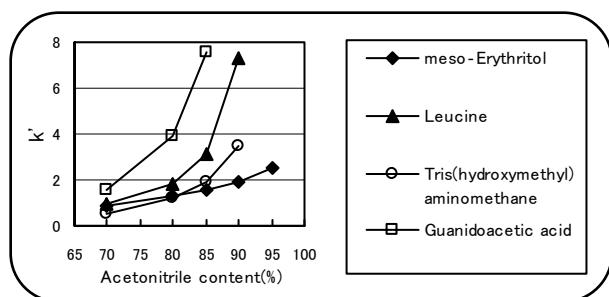

Fig.2 The effect of acetonitrile content on retention
- Retention increases as water content in the mobile phase decreased. (Fig.2)